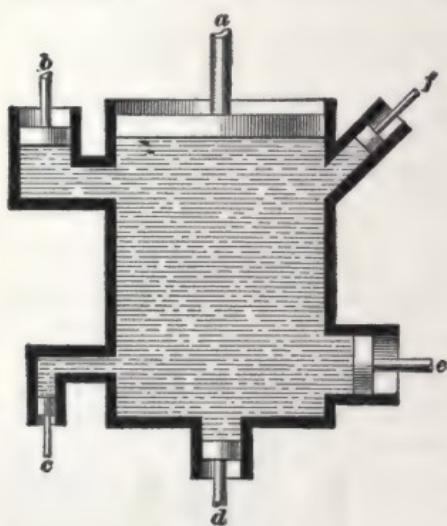

FIG. 2.
**4.** The foregoing fact may be easily proved experimentally by means of an apparatus like that shown in Fig. 2.
**EXAMPLE.**—If the area of the piston *e*, in Fig. 2, were 8.25 square inches and a force of 150 pounds were applied to it, what forces would have to be applied to the other pistons to keep the water in equilibrium, assuming that their areas were the same as given before?